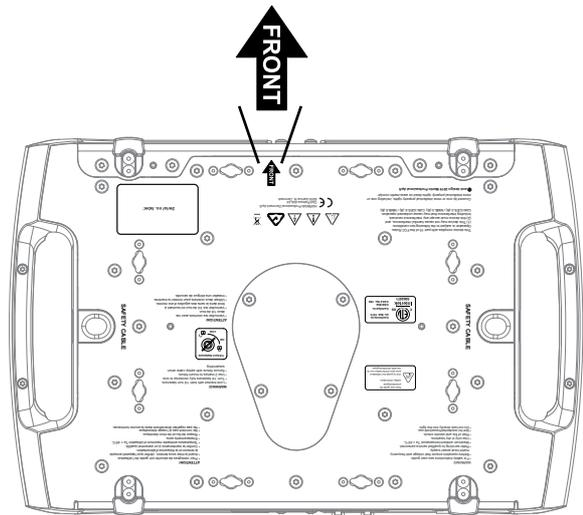

Figure 5: Front of fixture
5. Block access under the work area. See Figure 5. Note the position of the arrow marked **FRONT** on the base of the fixture. Working from a stable platform, hang the fixture on the rigging truss with the arrow marked **FRONT** facing towards the area to be illuminated. Tighten the rigging clamps.